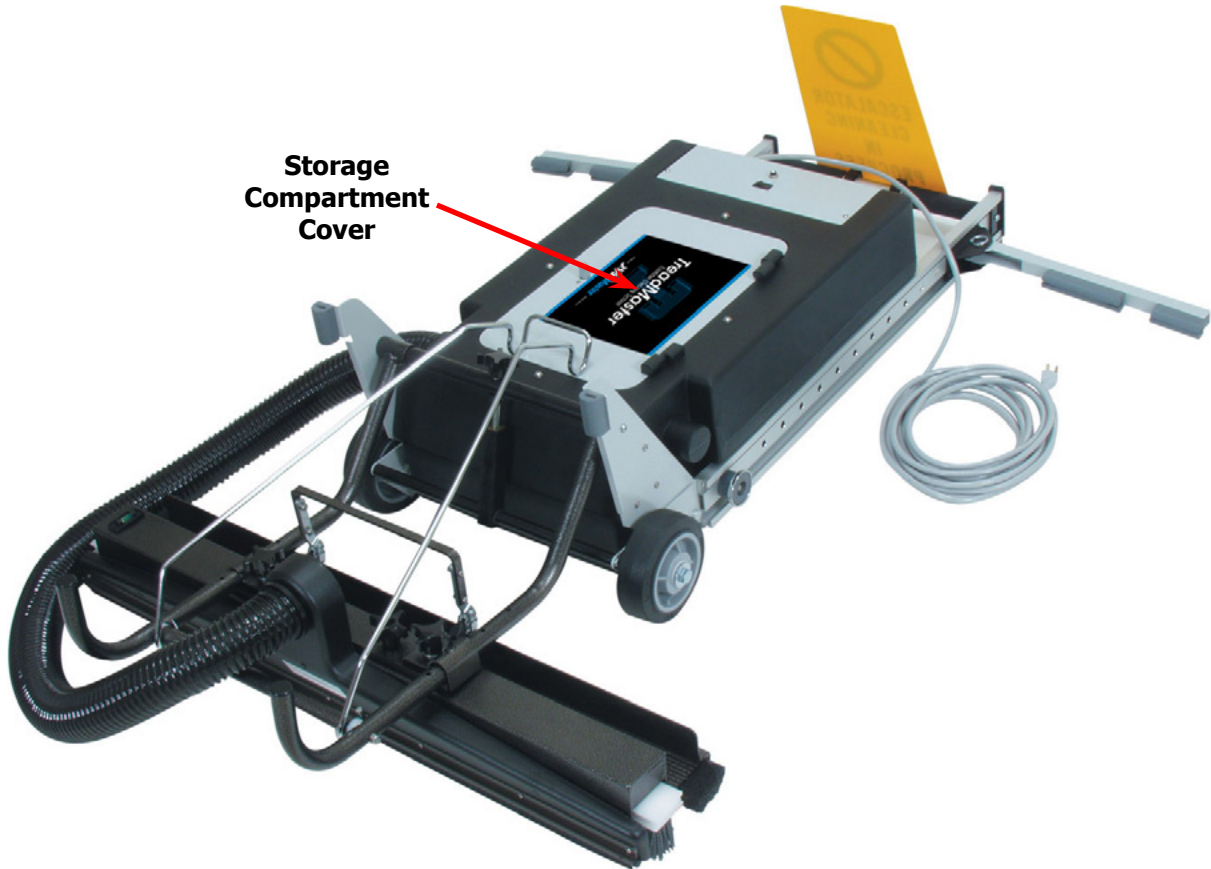

Figure 11. Vacuum Bag Located in Storage Compartment
1. Open the storage compartment cover (see Figure 11), remove the bag from its holder by releasing the safety catch.